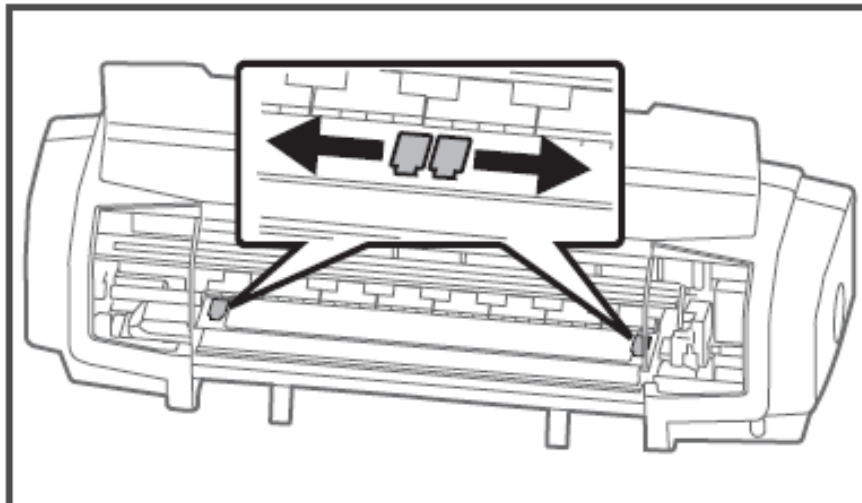

Figure 16
18. Peel away the tape then move the left and right paper guides to their outer positions. See Figure 16.